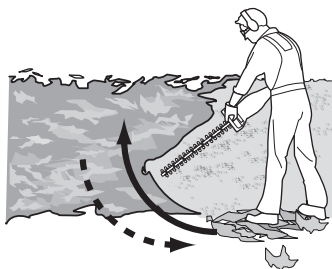

Fig. 9
2. Attach the sweeper (1) to the cutting device (blade) (13) if necessary.
3. Ensure that the rear handle (8) is locked into one of the five pre-setting position.
5. Always hold the product firmly with both hands on front handle (4) and the rear handle (8). Never operate this product using only one hand.
7. First cutting both sides from the bottom upwards to the top. This will prevent any of the cuttings falling into the path of the area still to be cut (Fig. 9).